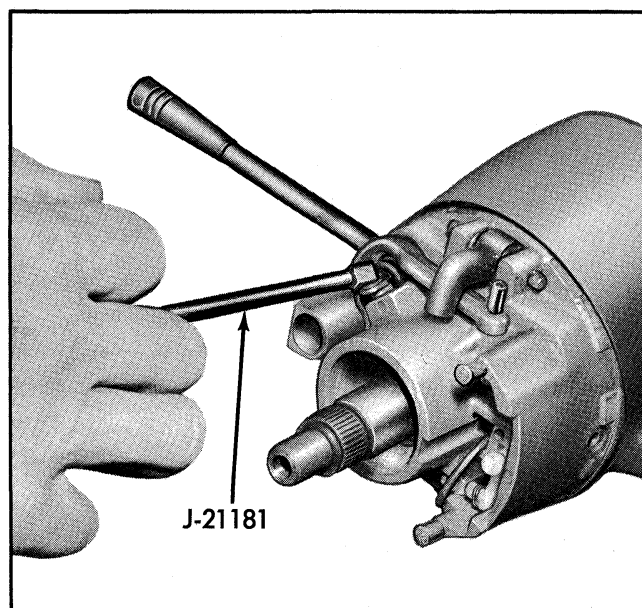

Fig. 9-15 Unseating Springs
14. Install tilt release lever, lift up and allow column to full up position, then unseat upper ends of tilt return springs with tool J-21181 (Fig. 9-15) or screwdriver.